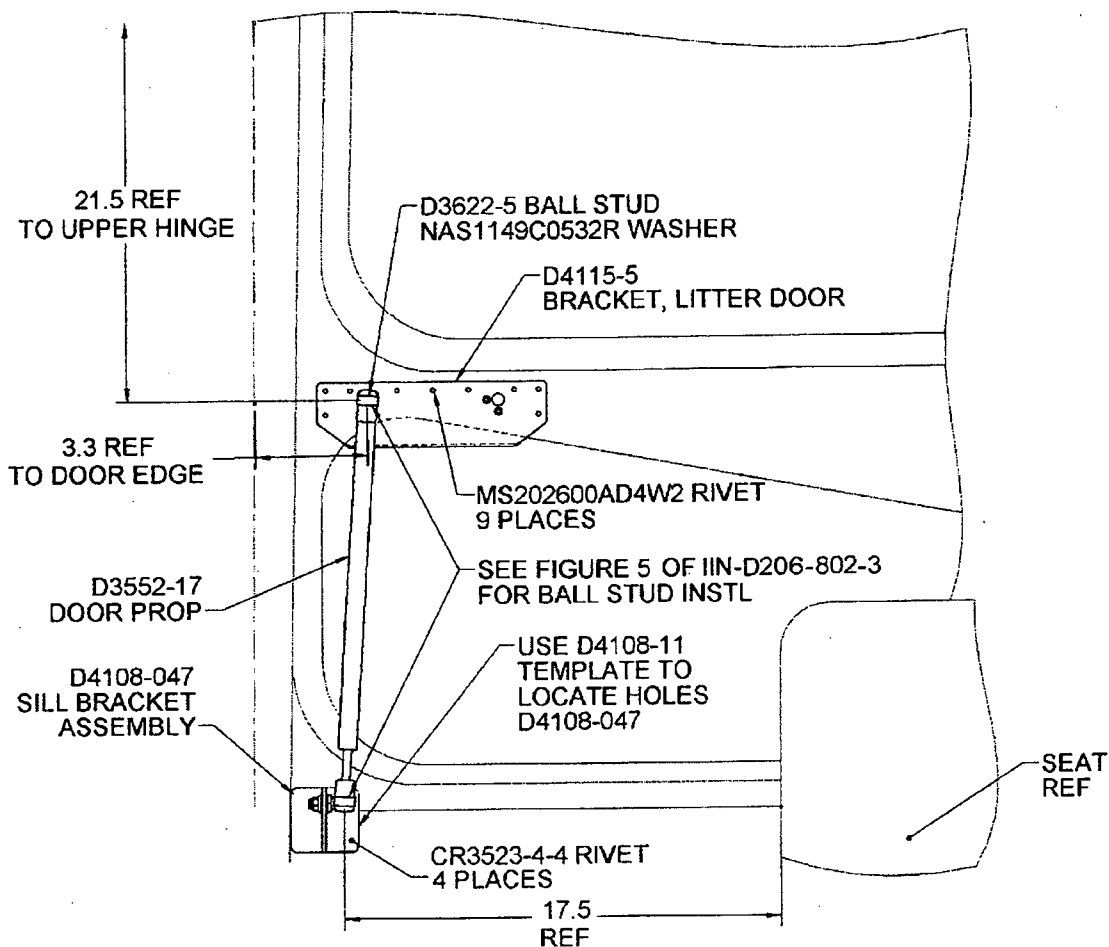

FIGURE 1: INSTALLATION OF D206-802-032 ON COMPOSITE AIRFRAME
Install D206-802-032 by replacing D4112-1 Aft Sill Doubler with D4108-047 per instructions below and Figure 1 of this Service Instruction.
- a) Using Figure 1 of this Service Instruction, locate D4108-11 Template on the edge of the door post closeout approximately 17.5" from the front of the seat. Match drill the Ø0.128" rivet holes (4 PL) on the door sill. Locate and drill thru template and door sill if the door sill is without existing holes.
- e) Install D4108-047 Sill Bracket Assembly by applying a thin layer of Proseal 890 and wet installing the CR3523-4-4 Rivets (4 PL) as shown in Figure 1 of this Service Instruction.